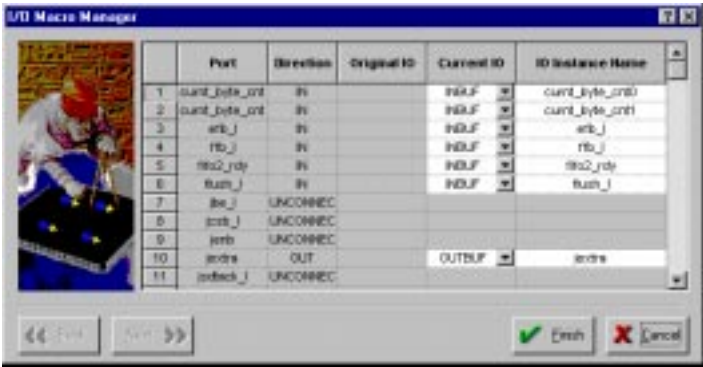

Figure 5-7. I/O Macro Manager Dialog Box
1. **Select the I/O Macro Manager command from the Tools menu.** This displays the I/O Macro Manager dialog box, as shown in Figure 5-7.